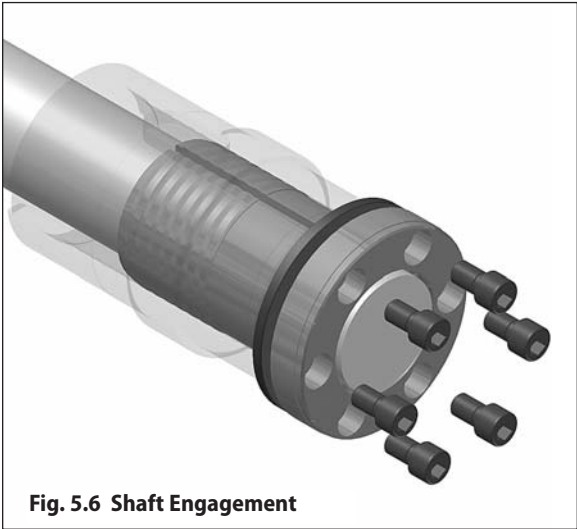

Fig. 5.6 Shaft Engagement
Step 6 – Position unit with the bushing flange located on the outboard side of the unit. Align the bushing with the driven shaft. Slide the unit onto the driven shaft as close to the driven shaft support bearing as possible. Ideally, the driven shaft should extend beyond the bushing flange face (see Fig. 5.6). Refer to the table below for minimum shaft engagement: